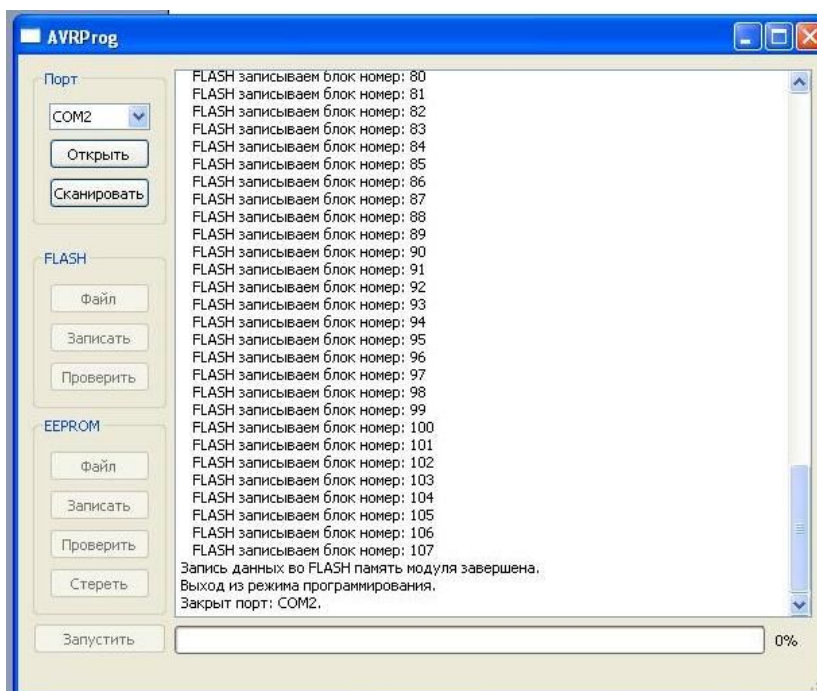

Рис.7
7. Click the “Start” button. Thereupon the modem will exit from the programming mode, the COM port will close (Fig.7).